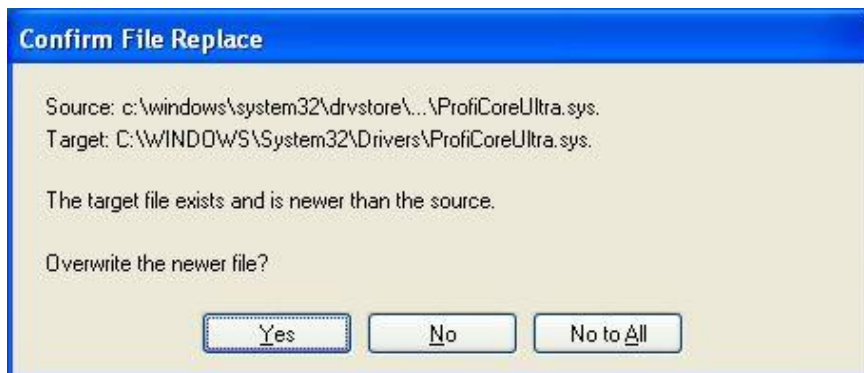

Fig. 4 - Warning prior to replacing drivers (confirm with Yes)
- ☐ Install the new version on-top of the directory from the previous version. If you are confronted with a warning about existing drivers which seems to be newer (see **Fig. 4**), just click 'Yes' and overwrite them.